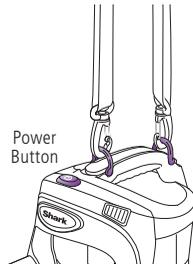

Fig. 5
- 4 Attach the shoulder strap onto the hooks on the handle of the Canister Vac. (**fig. 5**)
- 12 While holding the Canister Vac by the handle, press down on the power button to turn the Canister Vac on and begin vacuuming. Press down again to turn the vacuum off. (fig. 5)